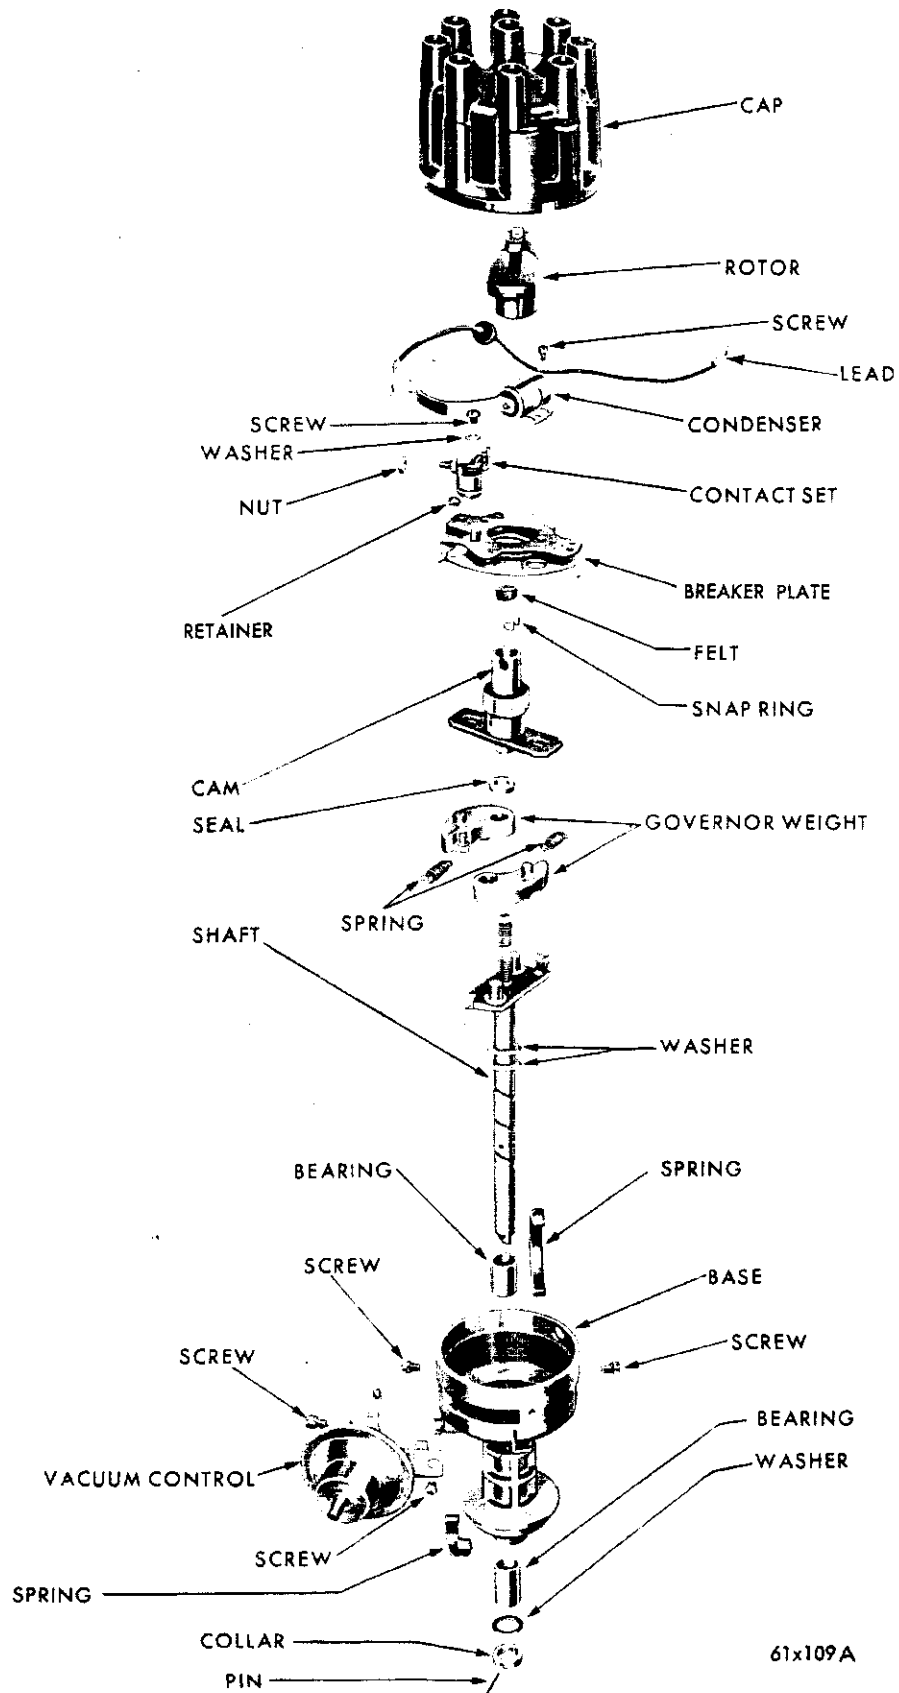

Fig. 79—Distributor—Disassembled View (Chrysler Built)
(3) Place one end of a wire loop around the top of the distributor shaft. Hook a spring scale in the other end of the wire loop and pull on a line with the plunger of the indicator gauge. Be sure the wire loop on the shaft end is down on the shaft to insure a straight pull and also that the wire loop does not interfere with the indicator or holding bracket. Apply a five pound pull and read the movement of the plunger on the indicator dial. (Be sure the rubbing block of breaker arm is on the highest point of the cam lobe during this test). If the plunger movement exceeds .006 inch, replace the bushings and/or distributor shaft, see "Distributor Disassembly".
c. Disassembly (Figs. 79 and 80)
(1) Remove the distributor rotor.